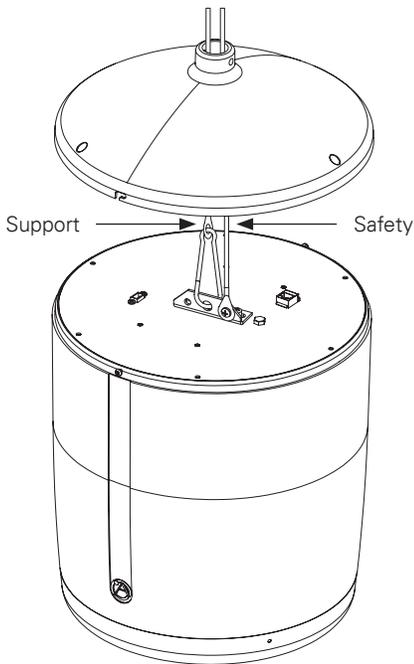

Figure 6
5. Route the eyelet end of the main support cable through the top cover of the DA-PM8GD. Attach the included carabiner clip to the eyelet and the large mounting hole on the back of the DA-PM8GD. (Figure 6)
6. Repeat steps 1 - 4 for the safety cable and attach it to one of the outer mounting holes on the support plate of the DA-PM8GD using the included mounting screw. (Figure 6)